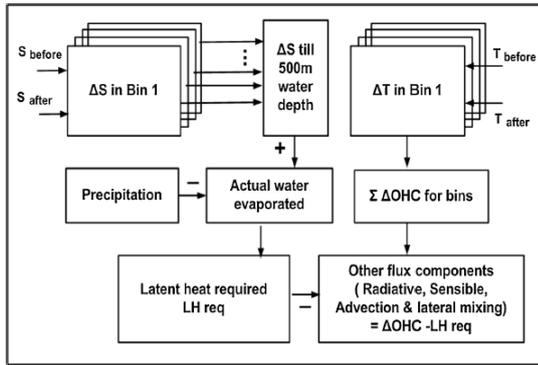

Figure.11.OAEE-TS algorithm
Estimating the Ocean Atmosphere Energy Exchange (OAEE) during TC helps to understand the changes in intensity. Analytically modelling the OAEE and estimating the atmospheric moisture generated for various levels of wind speeds (latent heat) during a TC are complicated due to the combined influence of described multiple dynamic atmospheric and oceanographic processes, that act simultaneously. The first-of-its-kind, NIOT's OAEE-Temperature & Salinity (TS) algorithm, developed and used to quantify the OAEE and water vapor generated from the ocean during TC winds (based on the salinity and OHC changes) is shown in Figure.11.